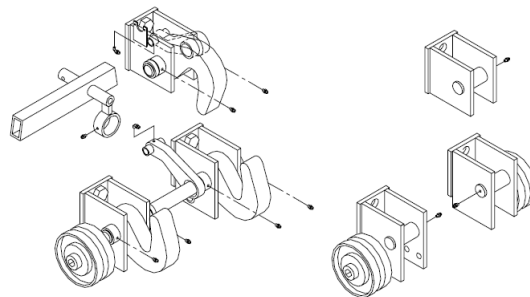

Figure 29
5. Lubricate all Bulkhead Assembly grease fittings every 6 months, or 750 cycles, whichever comes first (Figure 29).